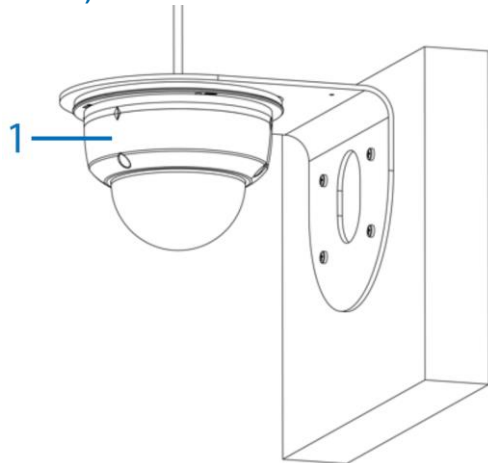

Figure 7
- F. Hold the camera dome (1) (Figure 7) up to the camera base and align the three holes on the dome with the three holes on the camera base, insert the three dome screws into the three holes and securely attach the dome to the camera base.